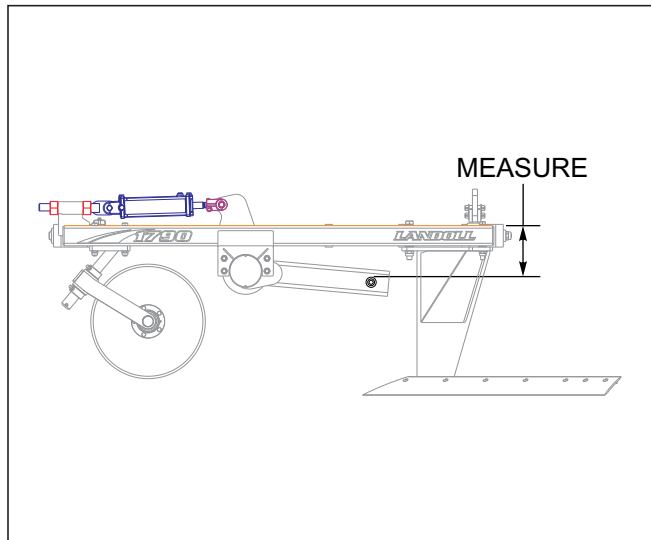

Figure 4-14: Frame Level Adjustment
3. Lay a straight edge across the top of the frame and measure from the top of the frame to the top of the spindle tube (of the non-adjustable spindle) of both center frame axles **See Figure 4-14**. If the measurements are more than 1/4" different, the cylinders will need adjusted.